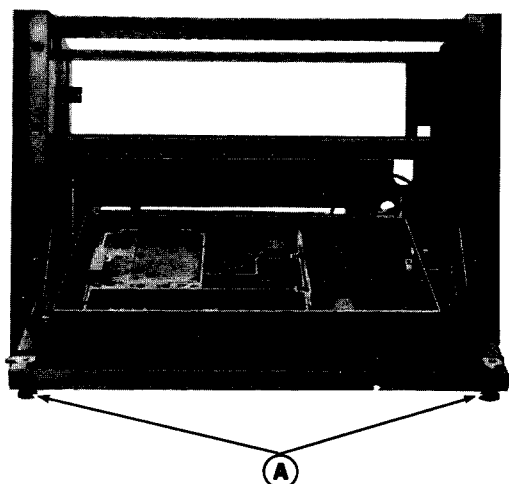

Figure 4 - Access to Exciter
1. Turn the two latching knobs (A) counterclockwise to unlatch the Radio Panel Front Door. Refer to Figure 4.